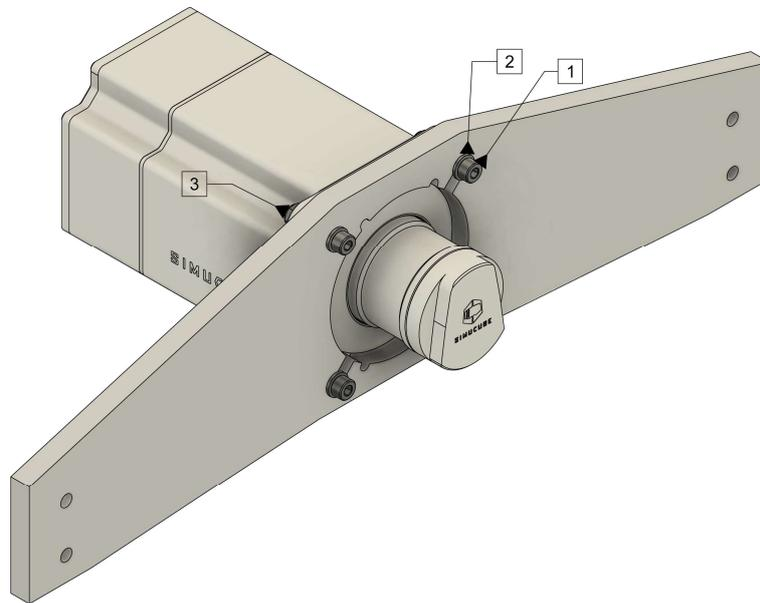

Figure 4 Mounting Simucube 2 on a simulator rig front mount bracket.
Simucube 2 can be mounted by utilizing a front mount bracket found on many simulator rigs as shown in Figure 4.
Mount Simucube 2 as shown in Figure 4. Sport and Pro models are mounted with 30mm M8 bolts with 1.25mm thread pitch (1) and M8 flat washers (2). Simucube 2 Ultimate is mounted through-the-motor flange with bolts (1), washers (2) and a M8 locking nuts (3).